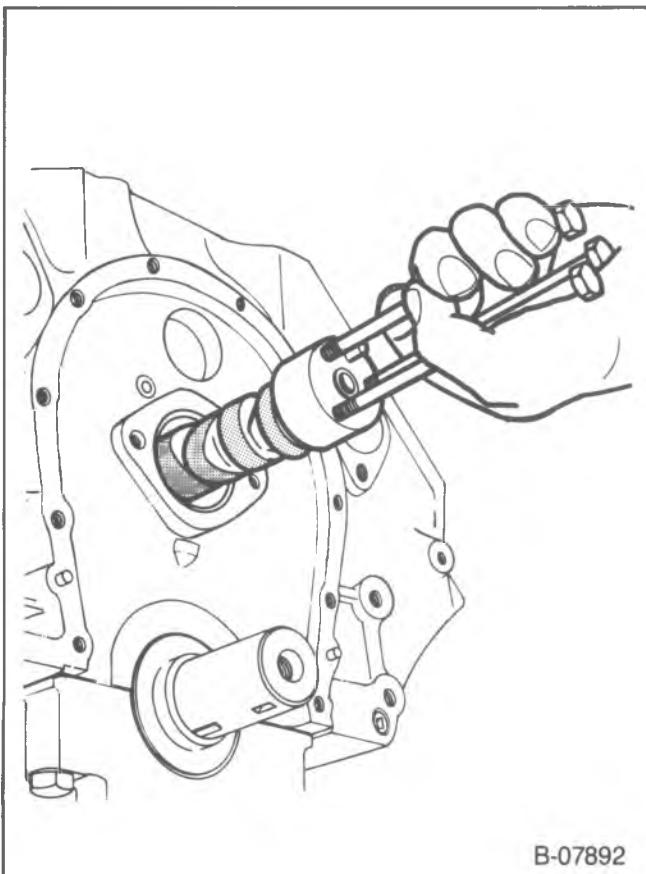

Figure 30—Installing the Camshaft
- 2. Camshaft to the engine (figure 30). Handle the camshaft carefully to prevent damage to the camshaft bearings.
- 3. Thrust plate (87) and screws (88).